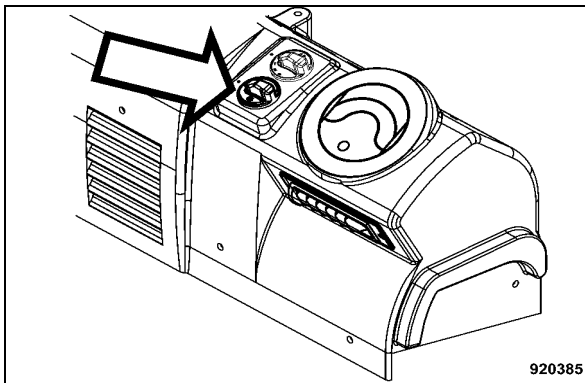

Fig. 156
- Choose a cooling temperature with the rotary switch for the air conditioning system (Fig. 156) in the blue section.